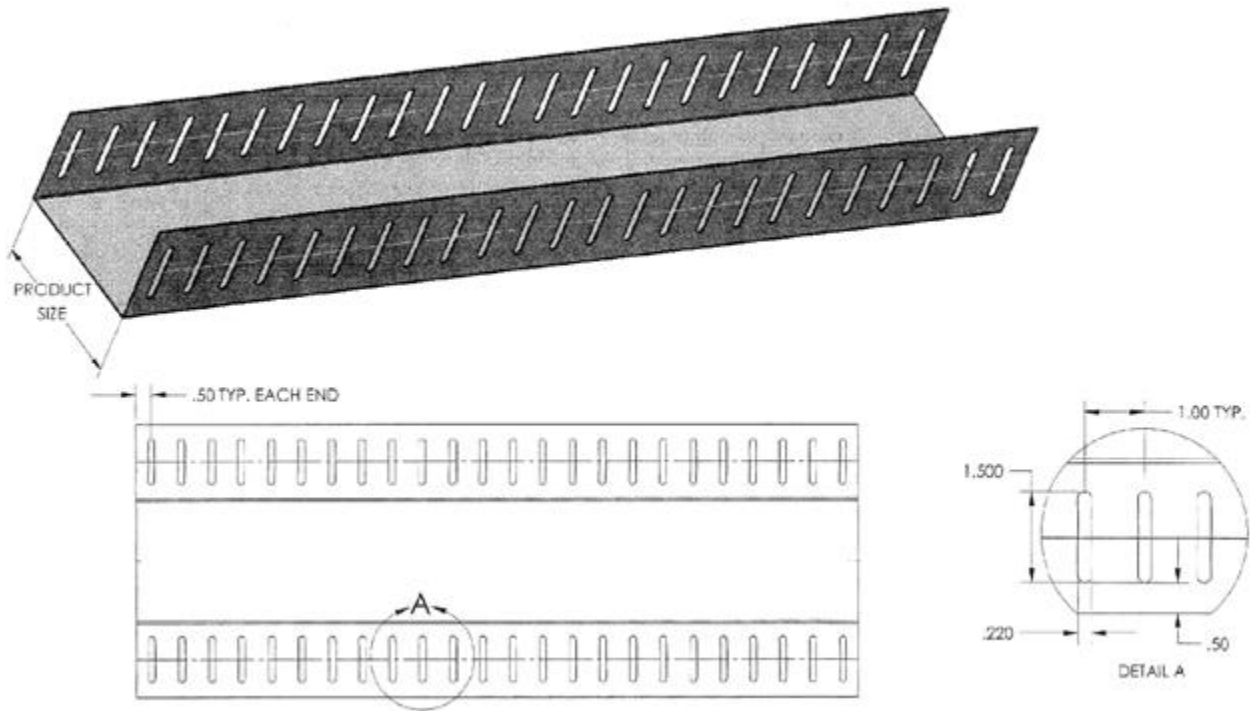
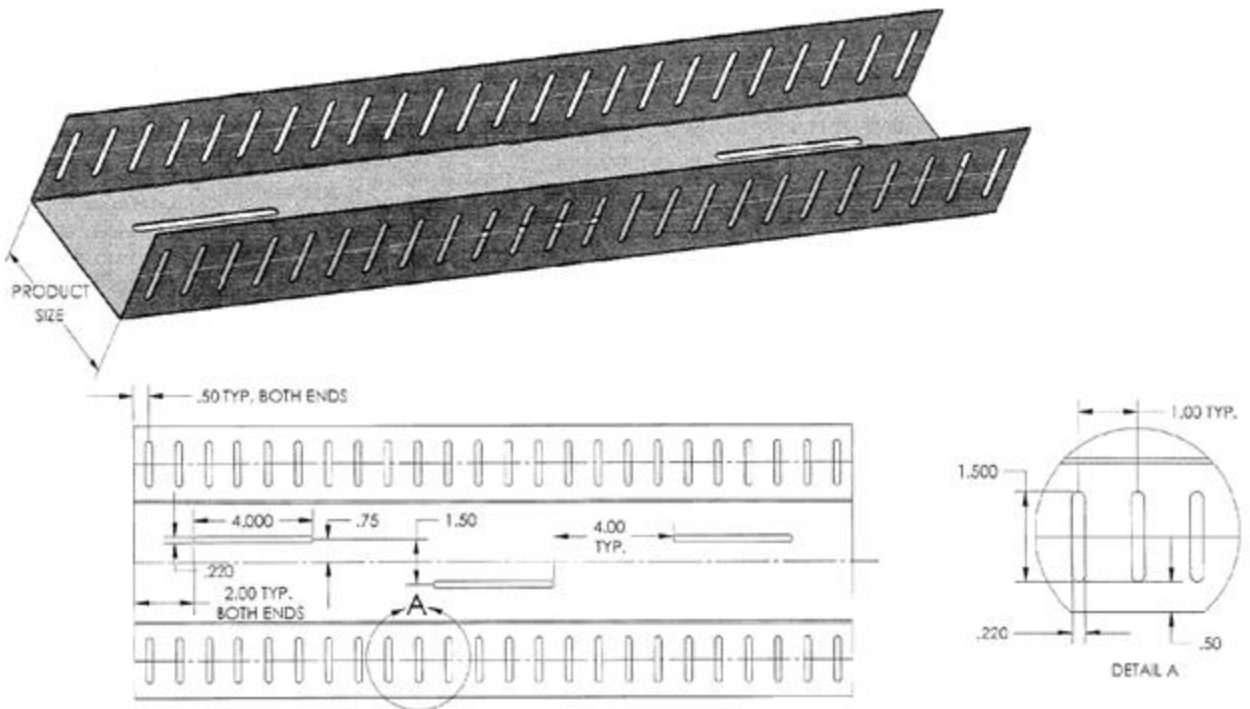

Figure 1 – *MaxTrak™* Slotted Deflection Track (SLT) Detail
Figure 2 – *MaxTrak™* Slotted Deflection & Drift Track (SLT-H) Detail
3.2 MaxTrak™ SLT and MaxTrak™ SLT-H deflection tracks are available in steel thicknesses of 33 mil, 43 mil, 54 mil, and 68 mil. Deflection tracks are available in widths of 2-1/2 inch, 3-5/8 inch, 4 inch, 6 inch and 8 inch. See Figure 1 and Figure 2 for track profiles.